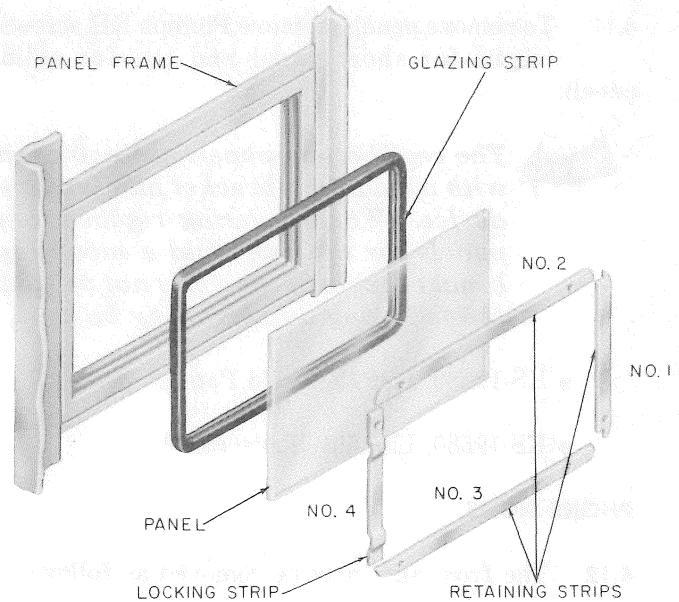

Fig. 23—Assembly of Side or Rear Panels
4.08 Booth panels and signs are held in place by four interlocking retaining strips. They are inserted in sequence as shown in Fig. 23. The No. 4 strip is rippled and is held in place by interface friction.
- (1) Remove No. 4 locking strip.
- (2) Remove retaining strips No. 2 and 3.
- (3) Remove retaining strip No. 1.
- (4) Remove panel and rubber glazing strip.
- (5) Apply rubber glazing strip to replacement panel.
- (6) Insert panel into frame with the beaded edge of glazing strip on the outside.
- (7) Replace retaining strips in sequence as shown in Fig. 23.
- 4.13 After roof is removed, the side and rear signs are removed in the same manner as the side panels (see 4.09 and Fig. 23).
4.35 Replace glass panels in similar manner as side panels (Fig. 23).